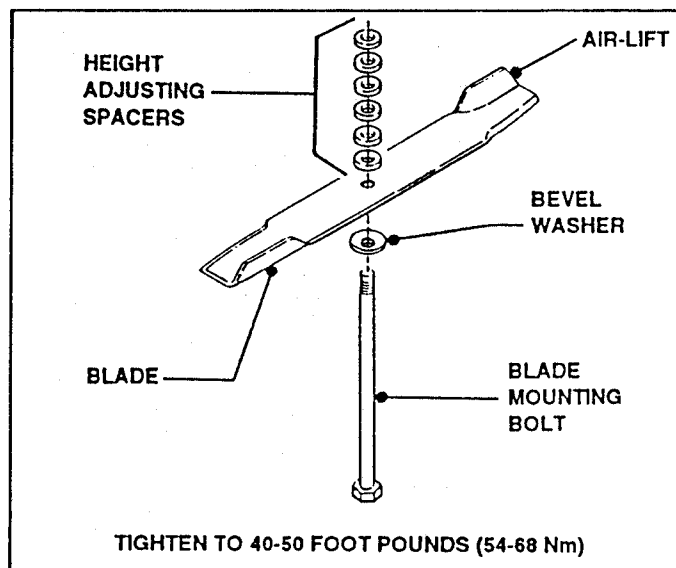
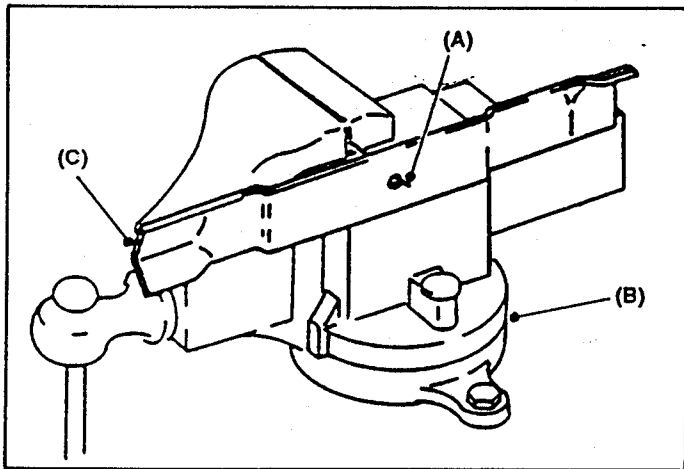

FIGURE 56
FIGURE 58
2. Inspect Blade. If it is cracked, bent or badly worn, replace it with a new blade. See Figure 56.
2. Put Nail (A) in Vice (B). See Figure 58.
3. Set Blade (C) on Nail.
5. Install Blade with retaining hardware and tighten bolt to 40-50 ft.-lbs. See Figures 56 & 57.